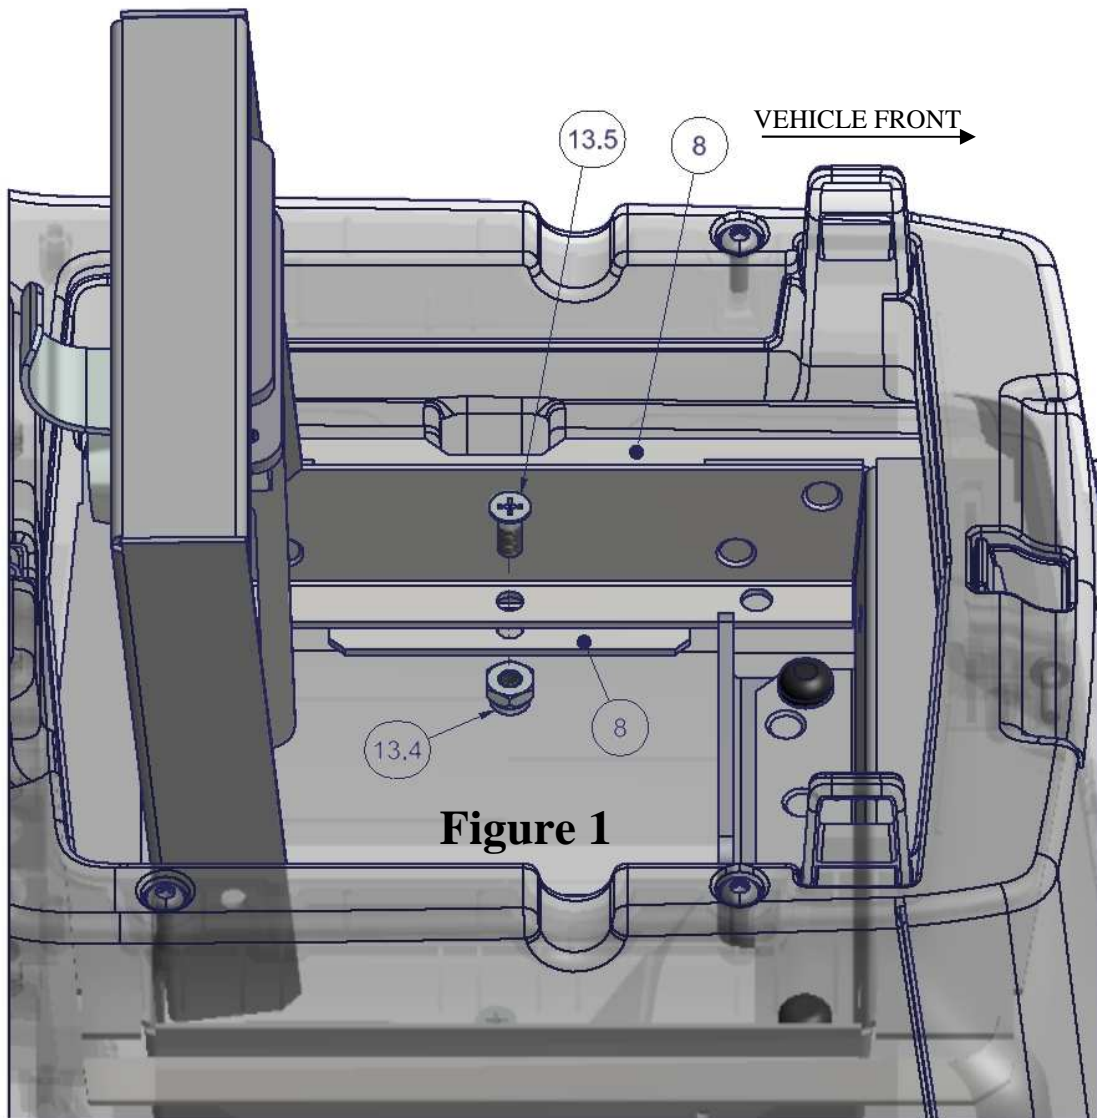

Figure 1
4. Unlock and open the lid of the #348 Console Insert and lift it off the bottom of the console and install the #8 Left Fill Plate using (1) #13.5 Screw, and (1) #13.5 Nylock Nut. The Fill Plate should be inserted through the opening of the Console Insert, and then lifted into position between the wall of the console and the outer edge of the Console Insert collar. (See Figure 1)